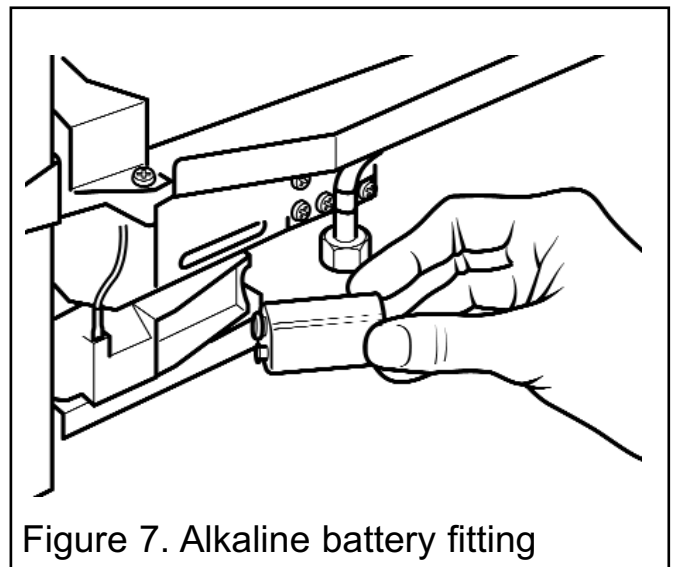

Figure 7. Alkaline battery fitting
- Fit the new alkaline battery firmly to the connections on the ignition block (See figure 7).